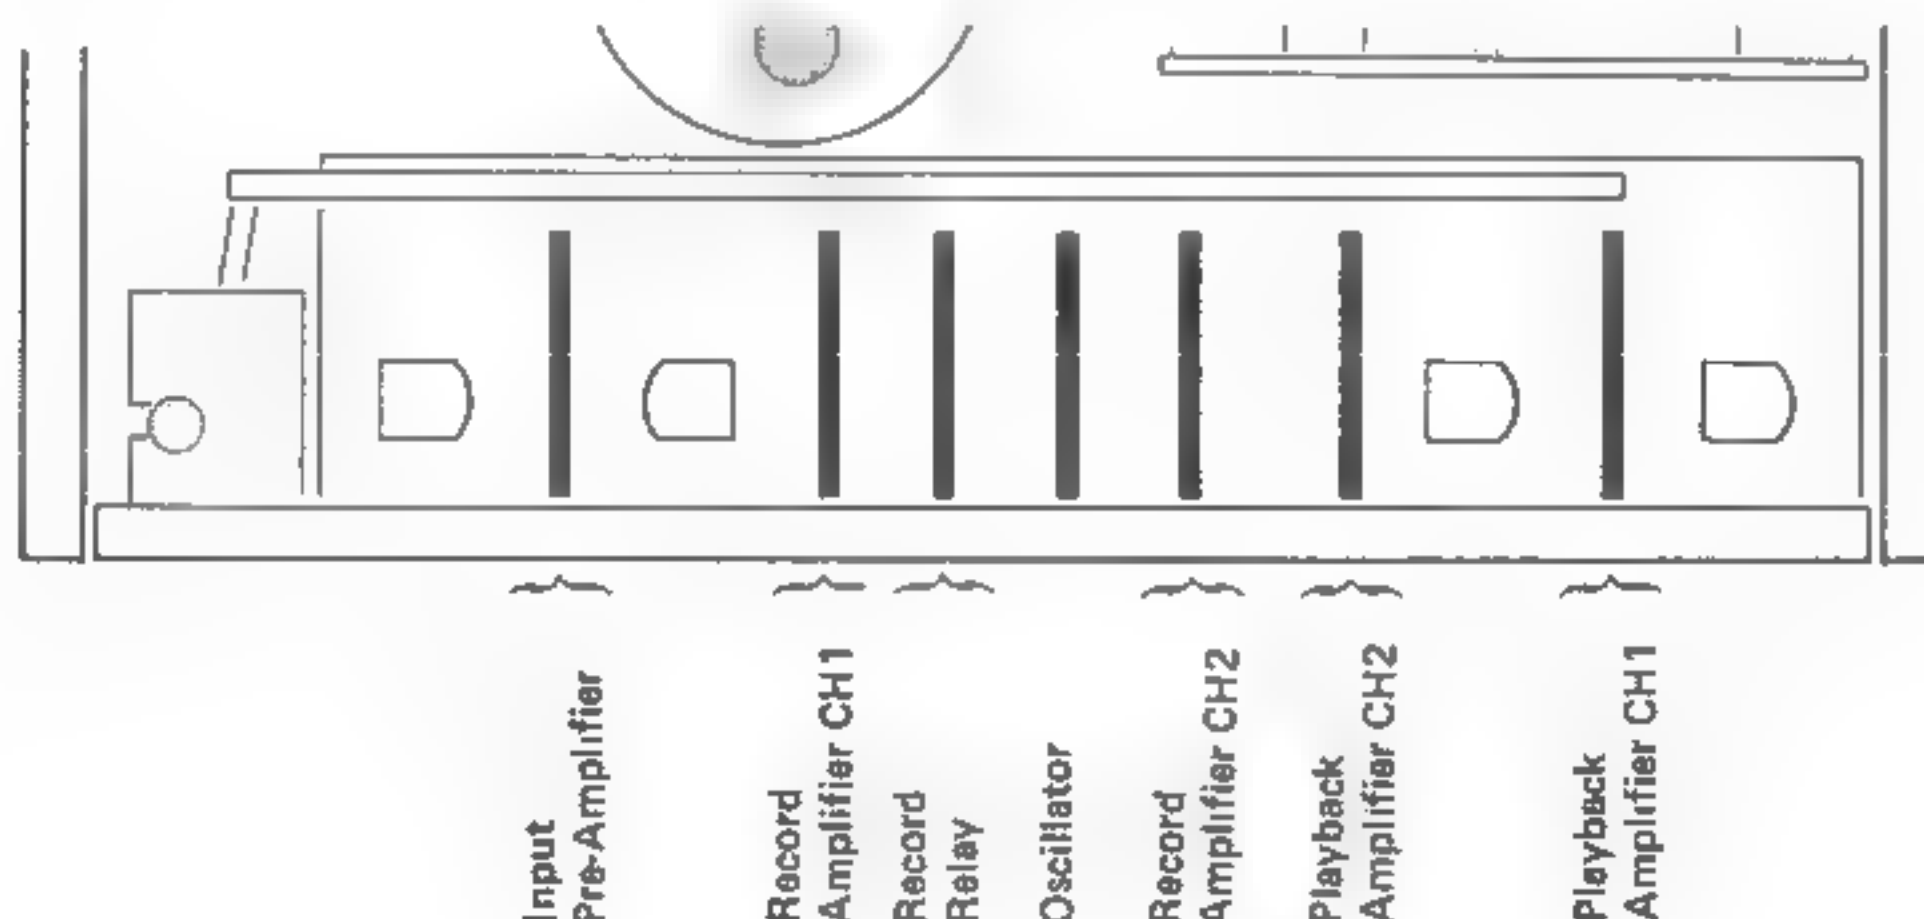

Fig. 3.10–14
- Remove plug-in amplifiers (fig. 3.10).